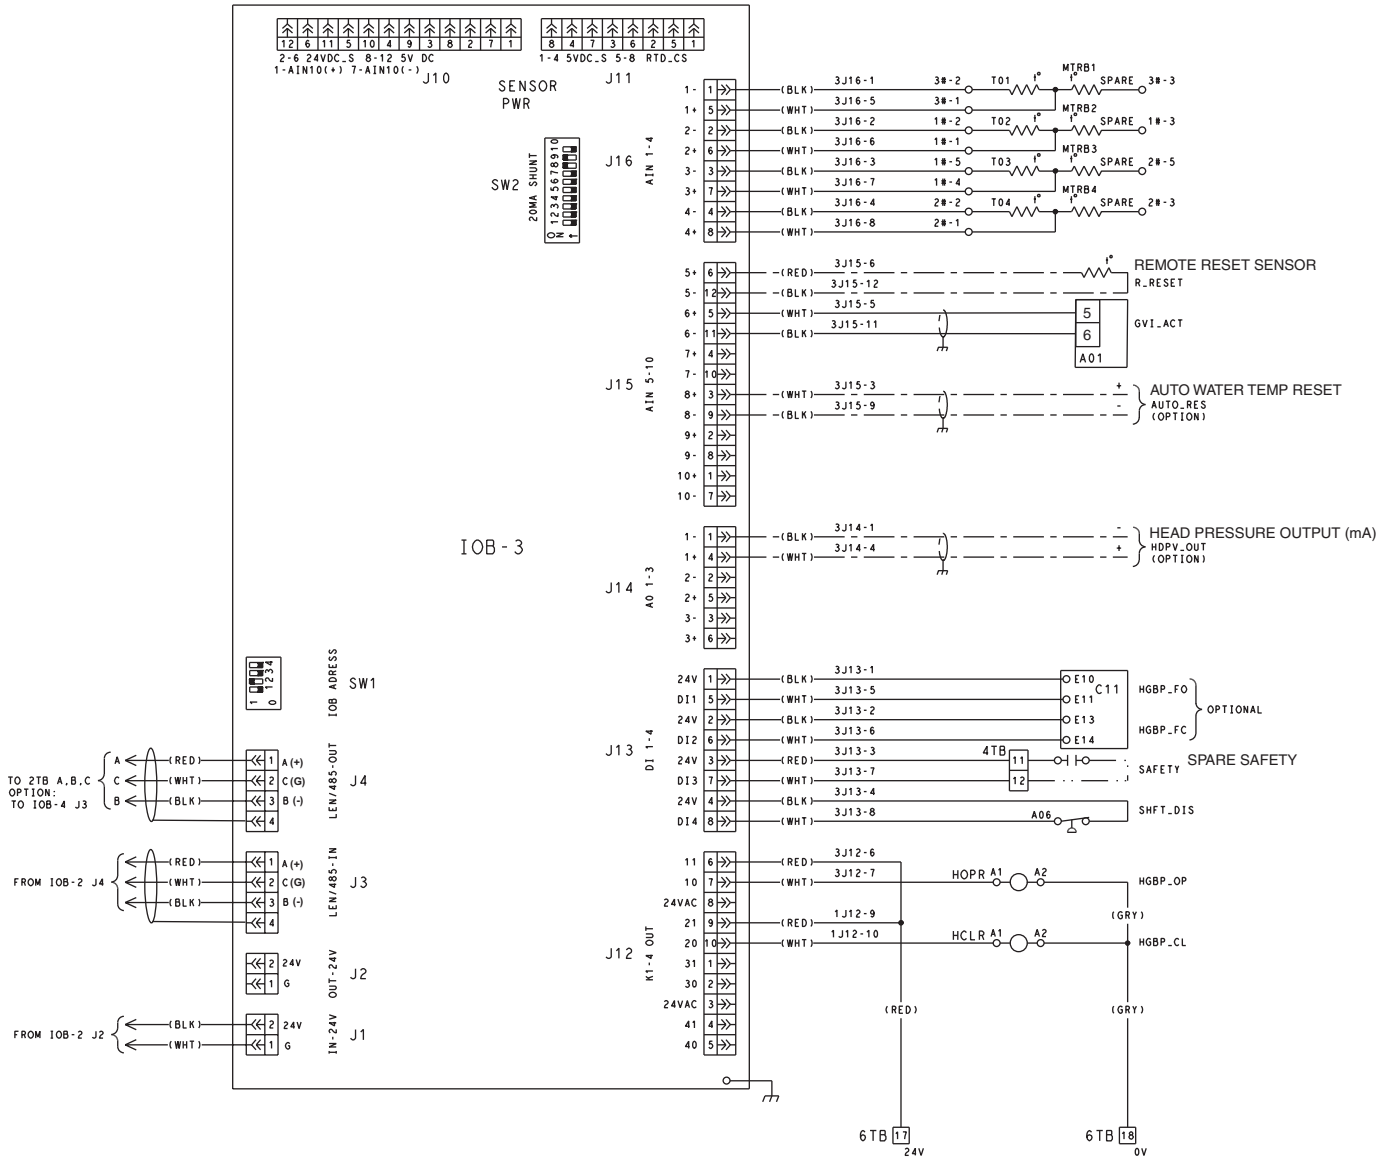

Fig. 8 — IOB 3
1. See Fig. 8 for IOB3 wiring diagram.
2. For pressure readings, only Vout (output) terminal is indicated. See Fig. 8 for Vin (+) and ground (–).